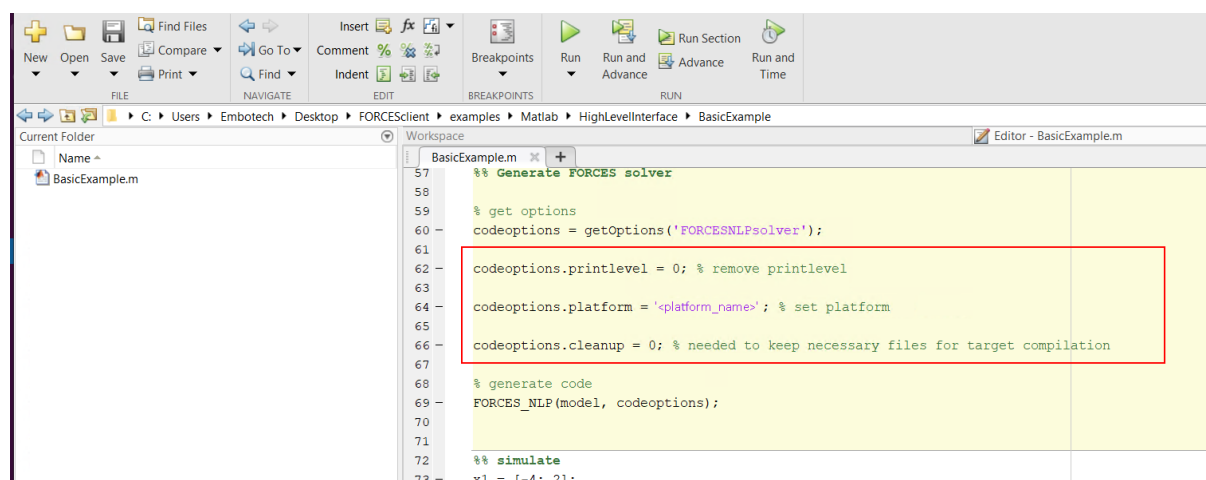

Figure 13.28: Set the appropriate code generation options.
- 1) (Figure 13.28) Set the code generation options: